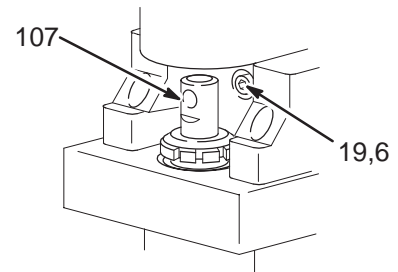
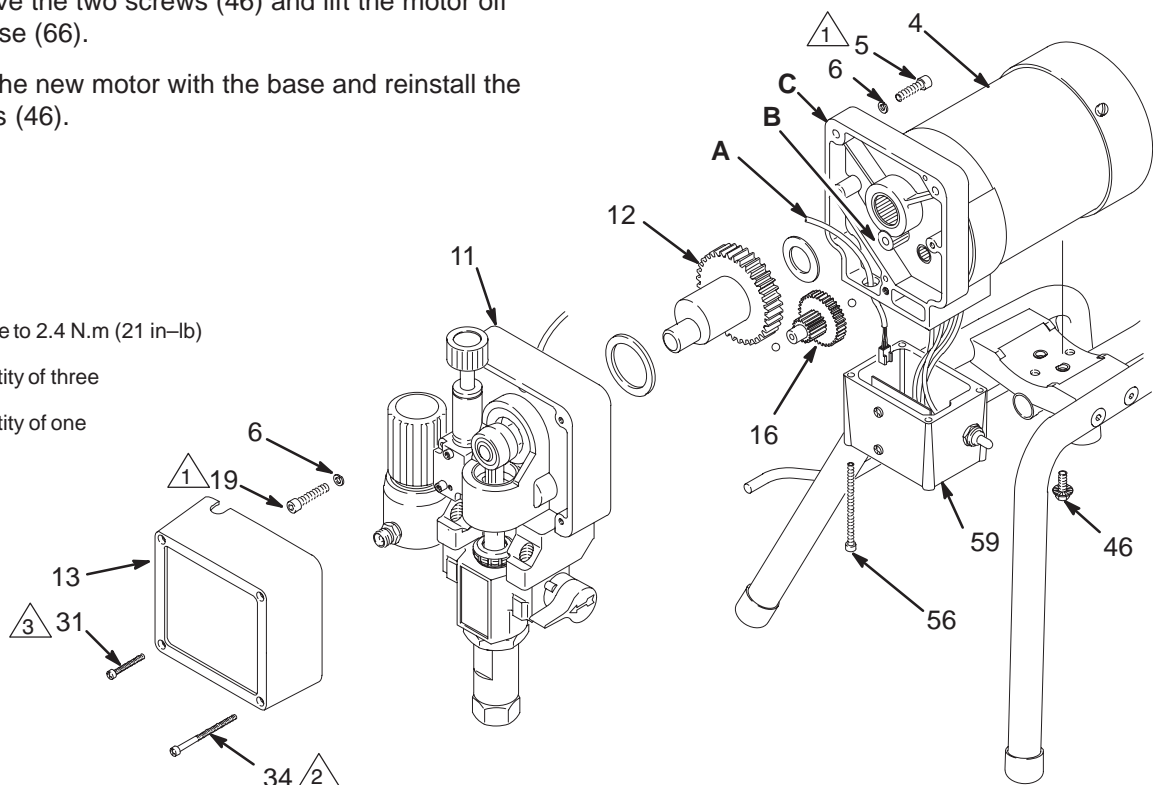
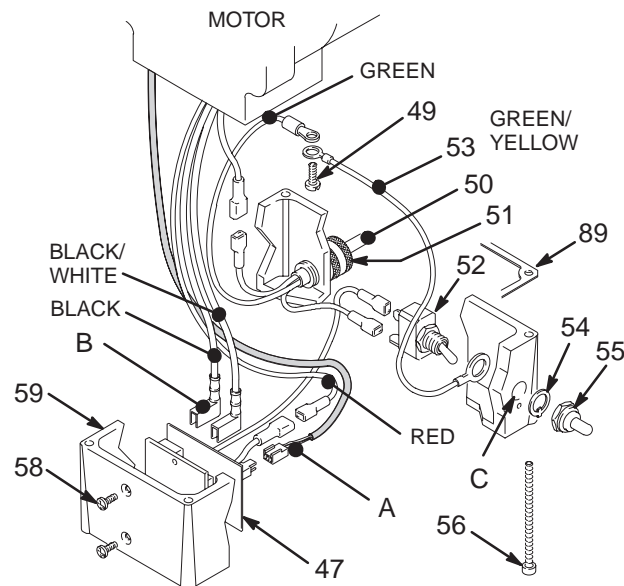

Fig. 12
Fig. 13
Fig. 14
NOTE: See Fig. 13 except where noted.
3. Remove the screws (56) and lower the junction box (59). Disconnect the motor wires and the pressure control wire (A) from the motor start board. Refer to Fig. 14 on page 14.
4. Remove the front cover (13).
5. Turn the displacement pump rod (107) so the pin hole aligns with the bottom drive housing screw (19). See Fig. 12. Remove the three drive housing screws and lockwashers (19,6). Also see Fig. 13.
6. Remove the two motor screws (5) and the lock washers (6).
7. Tap the lower rear of the drive housing (11) with a plastic mallet to loosen the motor. Pull the drive housing straight off the motor while guiding the harness (A) from the motor. Do not allow the gear (16) to fall. Read the CAUTION on page 15.
8. Remove the two screws (46) and lift the motor off the base (66).
9. Align the new motor with the base and reinstall the screws (46).
11. Connect the wires in the junction box. Refer to Fig. 14 on page 14. Install the junction box.
12. Connect the piston rod (107) to the drive housing; see page 12, **Installing the Pump**, Step 2 and the **WARNING** following it.
NOTE: See Fig. 14 for this procedure.